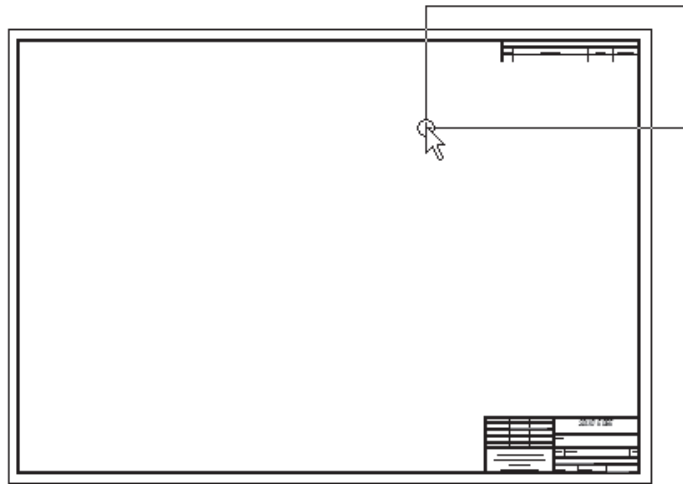

Figure 11-33 Selecting the table
6. Select the top table, as shown in Figure 11-33. All entities in the table are turned magenta in color, which indicates that they are selected.